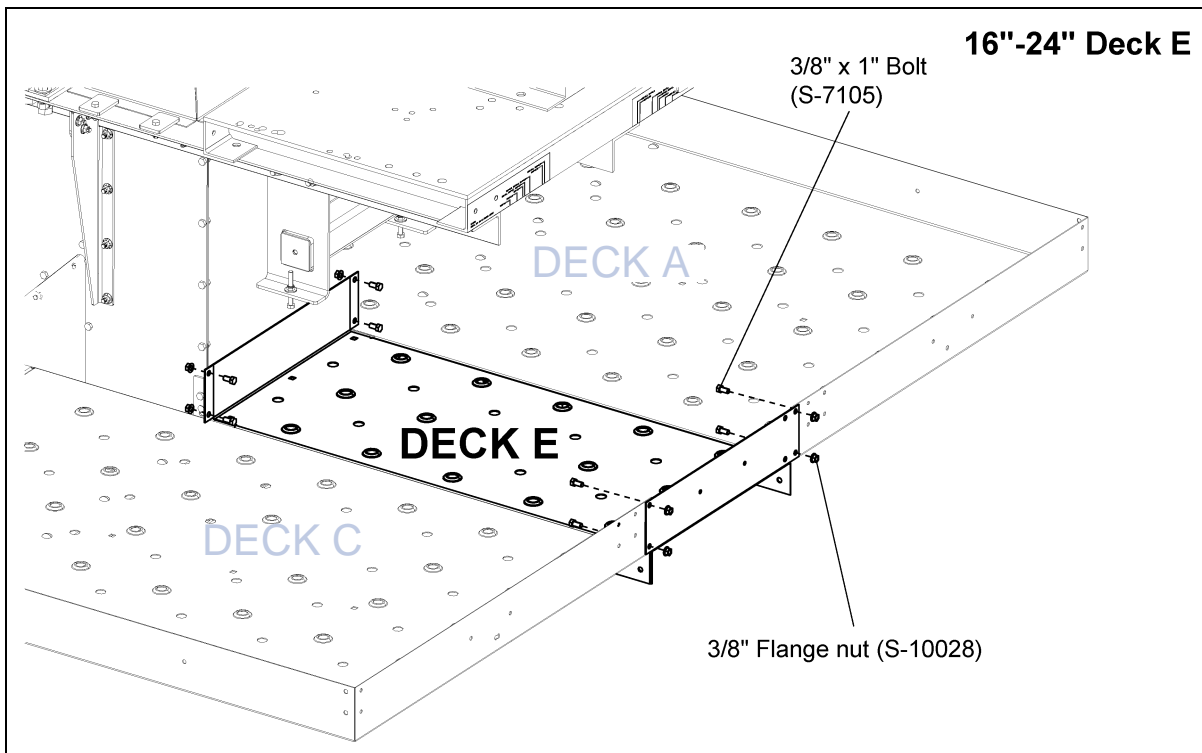

Figure 8J 24" Deck E
- Align Deck E so the flanges are to the outside of Deck A and Deck C. Using 3/8" x 1" bolts (S-7105) and 3/8" flange nuts (S-10028), connect Deck E to toe boards and flanges of Deck A and Deck C. (See Figure 8J.)